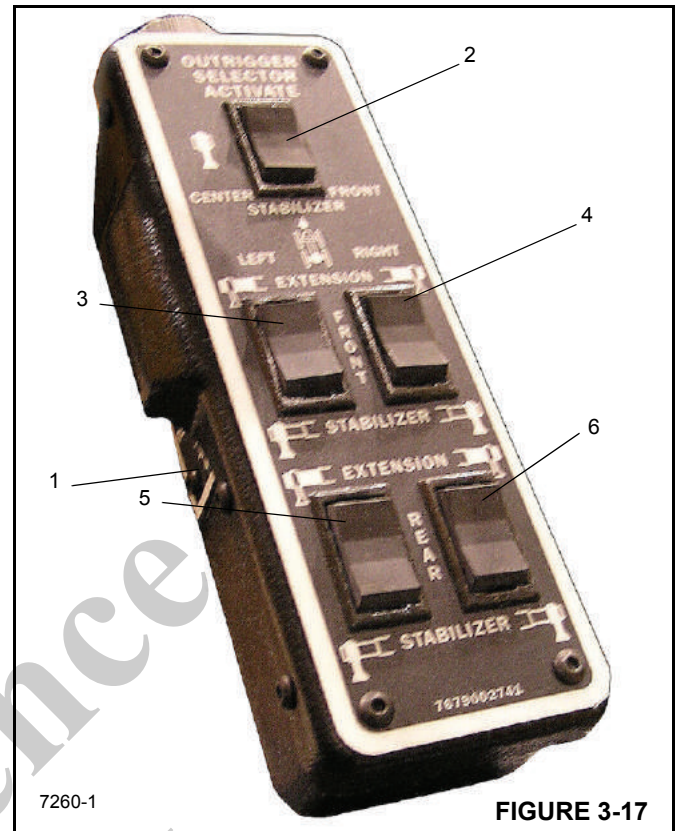

FIGURE 3-17
The outrigger extend/retract momentary switch (1) (Figure 3-17) is located on the side of the controller. It must be used in conjunction with the outrigger selector switches to control the operation of the stabilizer and extension cylinders.